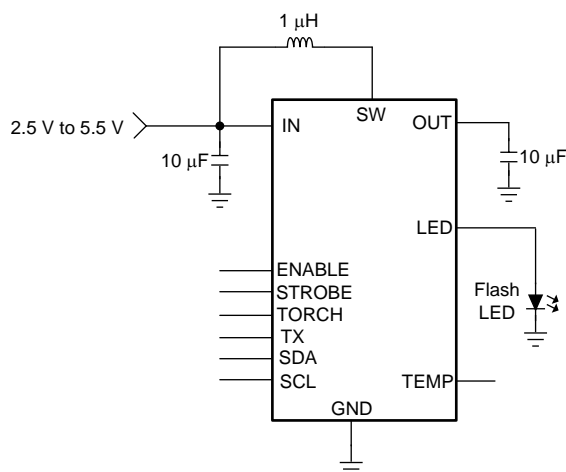

Figure 41. LM3556 Typical Application
Choosing the correct size and type of input capacitor helps minimize the voltage ripple caused by the switching of the LM3556 device's boost converter and reduces noise on the boost converter's input terminal that can feed through and disrupt internal analog signals. In the Figure 41 a 10- $\mu\text{F}$  ceramic input capacitor works well. It is important to place the input capacitor as close as possible to the LM3556's input (IN) pin. This reduces the series resistance and inductance that can inject noise into the device due to the input switching currents. Table 16 lists various input capacitors recommended for use with the LM3556.